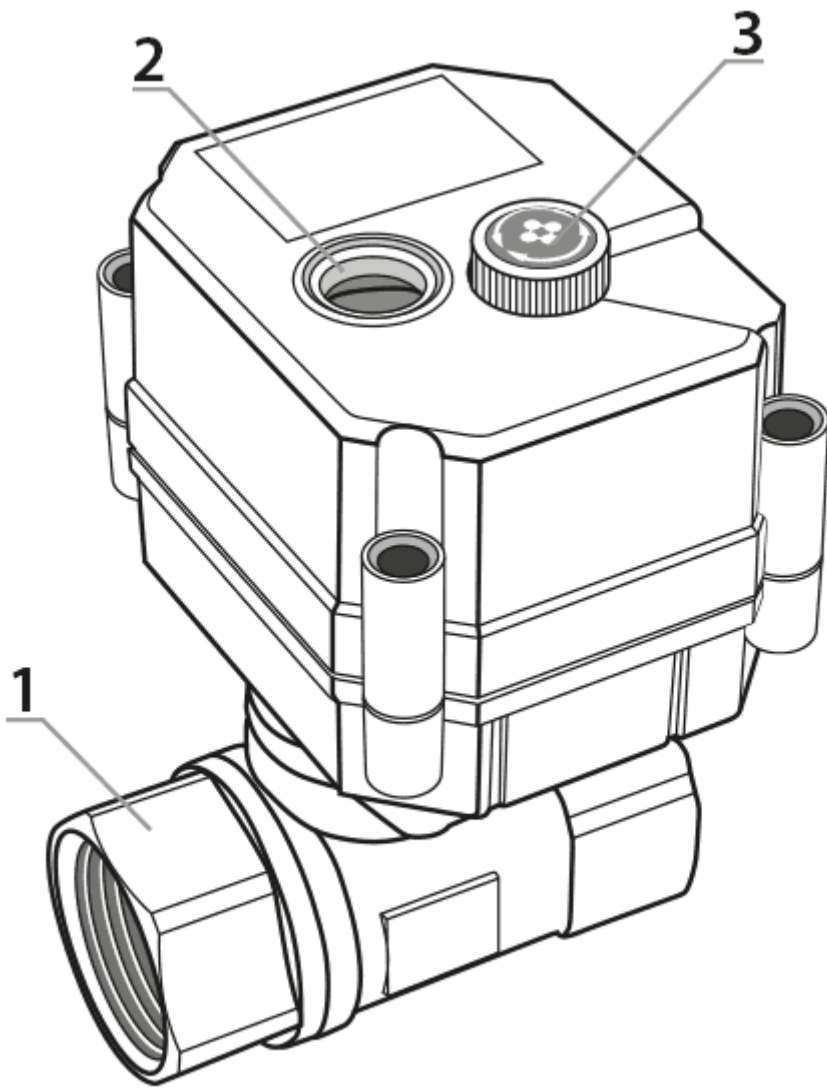
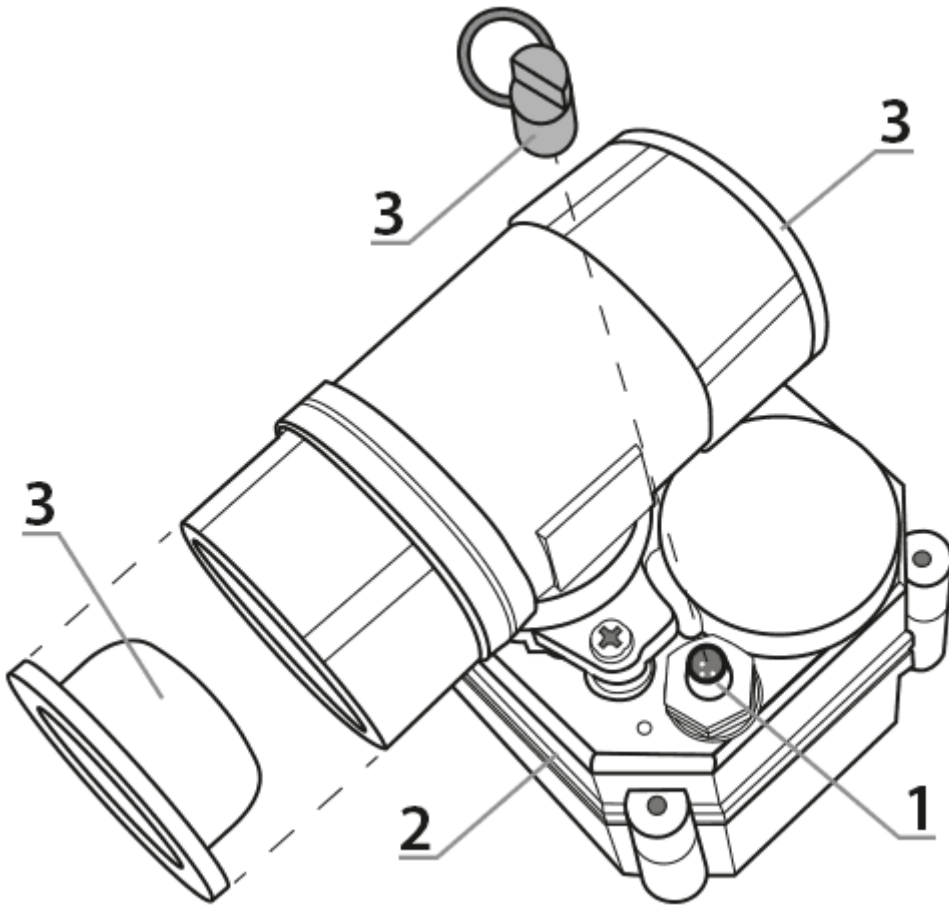

Fig. 1.
Fig. 2.
The valve must be installed in such a place that in case of flooding detection it would cut-off the desired area or entire system (depending on your needs). The valve must be installed on a water pipe, ensuring the access to the magnetic sensor (Fig. 2, pos. 2), the power/charging socket (Fig. 2, pos.1) and to the manual opening knob (Fig. 1, pos. 3). If problems occur during installation, you can separate body with electronics from the body of the valve as shown in Fig. 4. The distance between Flood Sensor and Flood Sensor Valve must not be less than 1.5 m, to avoid problems during radio communication. In case of no coverage in radio communication, try to turn the valve on a pipe by 90° in order to improve the position of the antennas in the Valve and Sensor or decrease the distance between the devices.